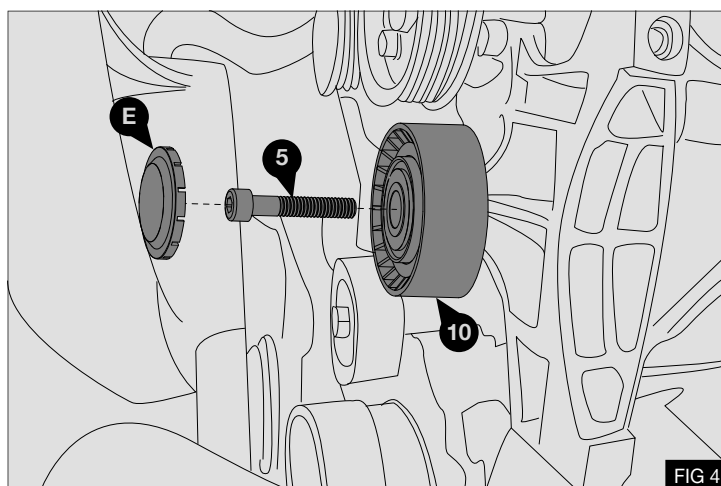

FIG 4
1. Fit the supplied Idle pulley (10) to the original auxiliary mounting bracket. Fixing it with the supplied bolt (5) M8 x 45 - Fig.4
2. Torque bolt (5) 29Nm / 21.4lb.ft using a calibrated torque wrench
3. Fit the supplied idle pulley bearing cover (E)